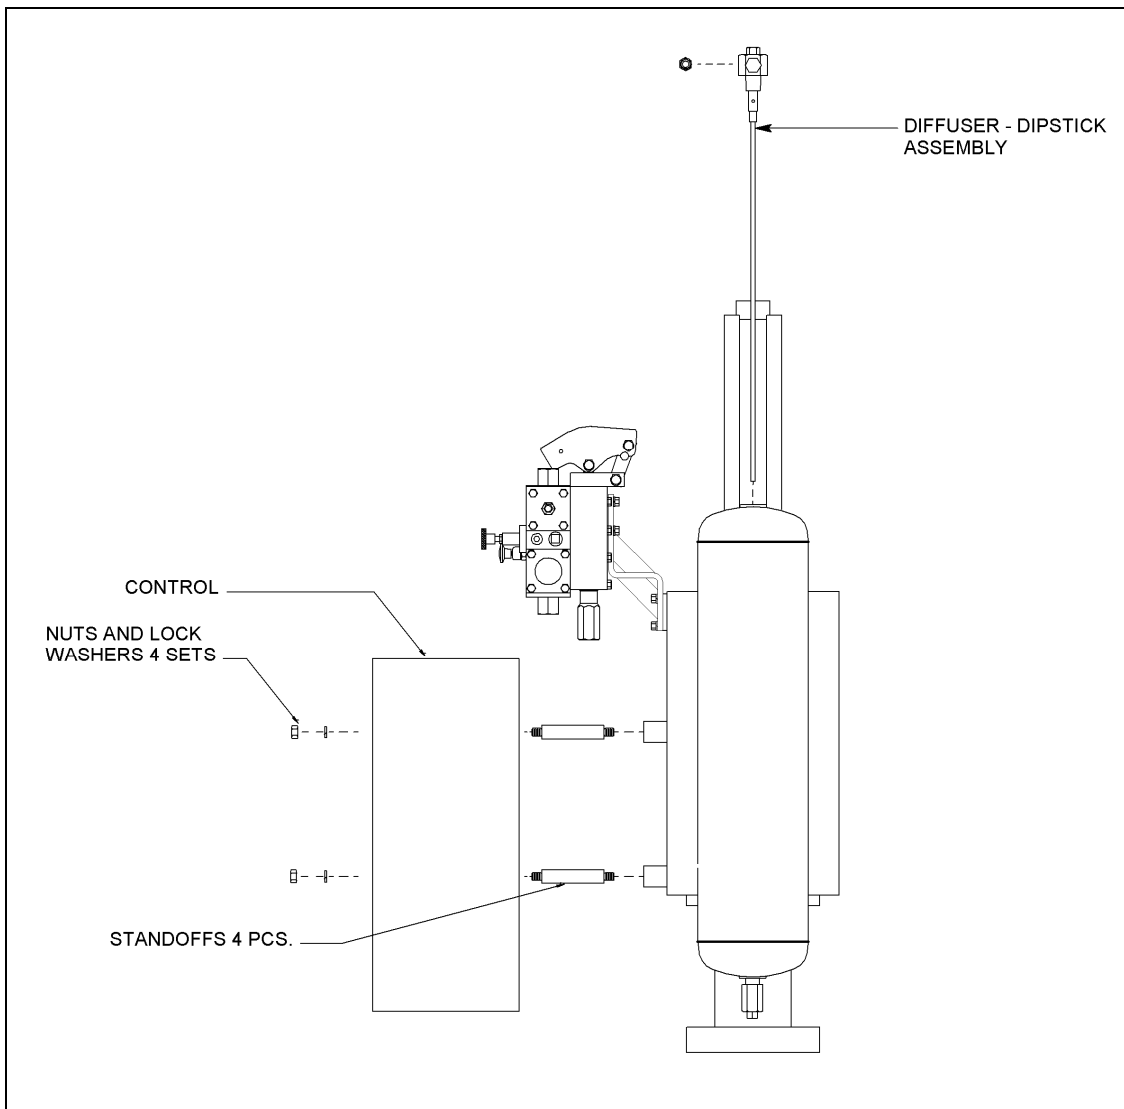

Figure 1: Install New Control
1. Install the four standoffs to the mounting bracket. (See Figure 1)
2. Choose the mounting holes, in the Control, that will offer the best fit, probably the upper ones, and position the Control on the Standoffs. Fasten with nuts and lock washers. (See Figure 1 and Figure 3)